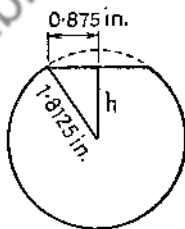

Fig. 18
(2) A flat  $1\frac{3}{4}$  in. wide is to be machined on a bar  $3\frac{5}{8}$  in. diameter. Calculate the maximum depth of cut (fig. 18).